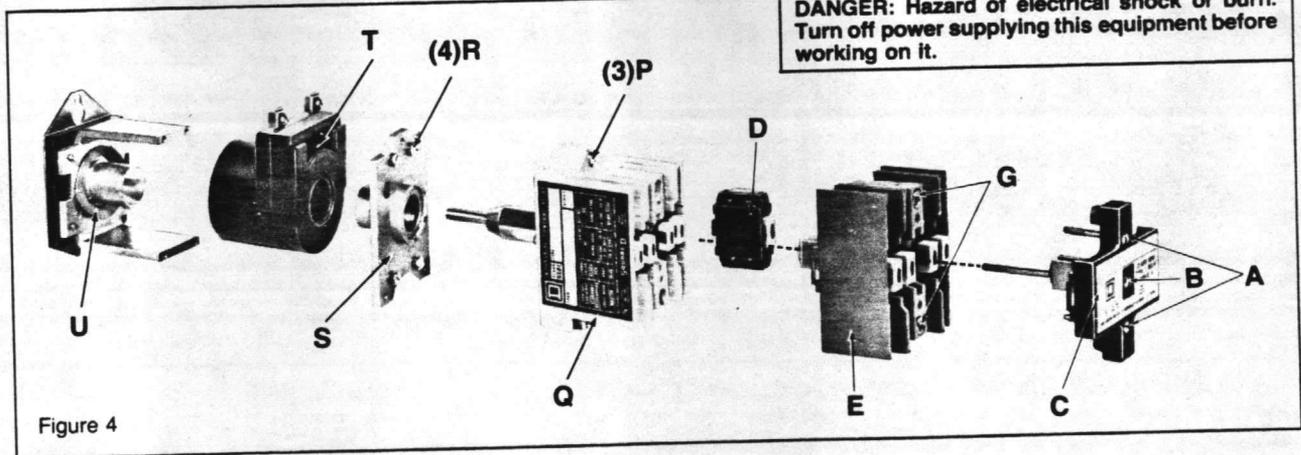

Figure 4
The coil on a dc-operated Type XD or XUD relay is easy to replace from the front of the device (Figure 4). See Table 6 (Page 4) for factory recommended tightening torques. To replace the dc coil:
1. Loosen three captive housing screws (P). Lift off housing assembly (Q).
2. Remove four magnet plate screws (R) and lift off magnet plate (S).
3. Lift out coil (T) and replace with new coil. See Figure 4 for proper orientation. Be sure not to remove spring washer (U).
4. Replace magnet plate (S) and tighten four screws (R).
5. Replace housing assembly (Q) and tighten three housing screws (P).
Contact conversion from normally open to normally closed, or vice versa, can be done without removing any wires or terminal screws (Figure 4 page 3). **Gray logic reed cartridges are non-convertible.** See Table 6 for factory recommended tightening torques. To convert contacts on the:
ADDING DECKS — Figure 4 Page 3